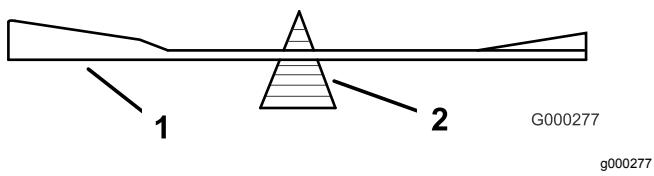

Figure 107
- Check the balance of the blade by putting it on a blade balancer (Figure 107).